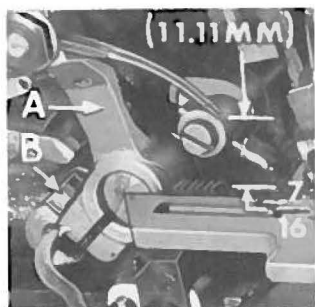

Fig. 3
With throat plate assembled in position needles should center in the front end of needle slot. When needles are at high position, the needle points should be set  $\frac{7}{16}$  inch (11.11 mm) above the throat plate (Fig. 3) for Style 39500 RB. For Style 39500 RC-045 the needle points should be set  $\frac{15}{32}$  inch (11.91 mm) and  $\frac{1}{2}$  inch (12.70 mm) for Style 39500 RC-060 above the throat plate. To align needles or set the height above the throat plate, move needle driving arm (A, Fig. 3) by loosening clamp screw (B). After needles have been set properly, tighten screw (B) and remove throat